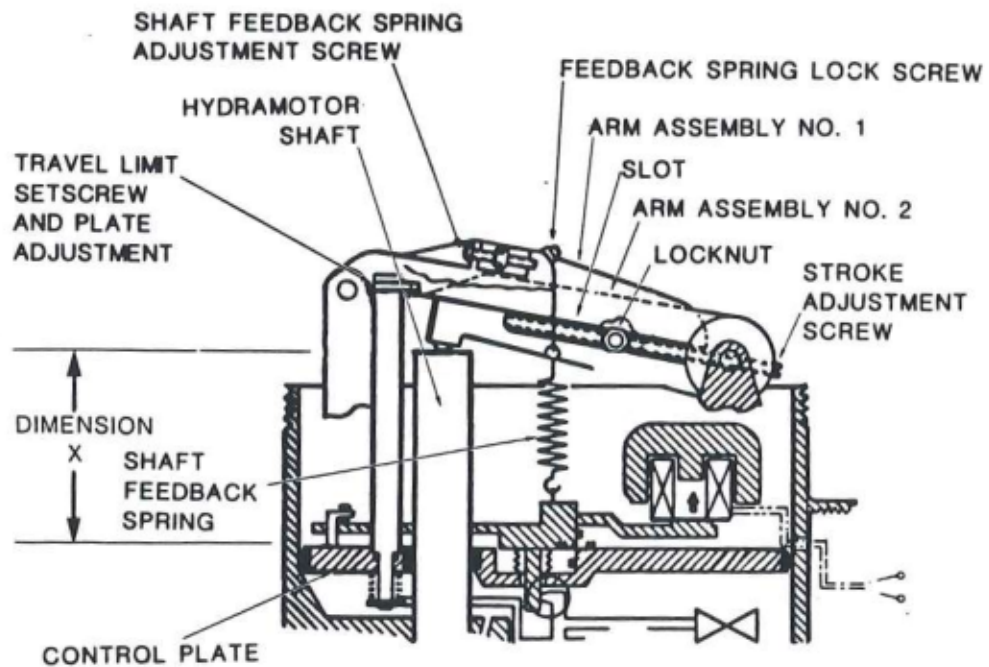

Figure 2-9 Stroke Adjustment for Pull Type
- 3). The top edge of the slot in arm No. 2 and the bottom edge of arm No. 1 (see Figure 2-9) should be visually parallel. If not, loosen the feedback spring lock screw (see Figure 2-9), then turn the feedback spring adjustment screw clockwise or counterclockwise to obtain a parallel condition.
### 2.3.2 Stroke Adjustment (see Figure 2-9)
- 2). Carefully measure dimension "X" (from the controller assembly plate to the top of the shaft) using a 6 inch steel ruler (see Figure 2-9).
- 9). Measure dimension "X" (see Figure 2-9), and subtract this value from the value found in step 4. The result should equal the PCD usable lift, as well as the stroke required. If not, repeat the 50% position calibration and stroke adjustment steps 2.3.1 through 2.3.3 above.
Models AH91 and AH93 are equipped with a mechanical travel limit device (see Figure 2-9), which should be adjusted after stroke adjustments are made and locked. This device will prevent the shaft from exceeding the desired stroke setting.